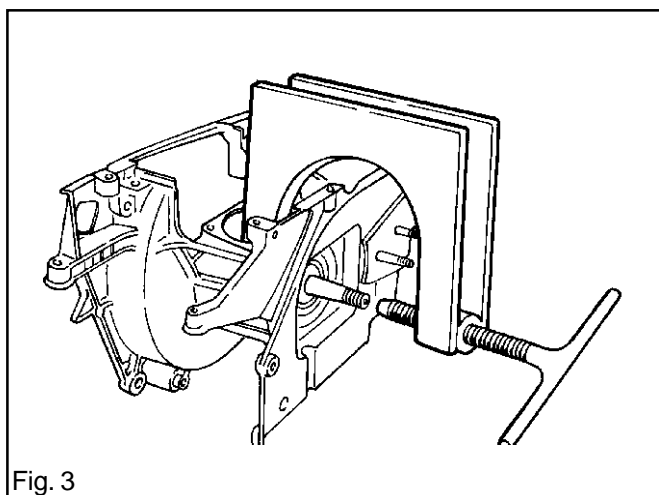

Fig. 3
5. Fit tool 502 51 61-01 as shown in fig. 3 and remove the crankcase half on the clutch side.
6. Remove the crankcase half on the flywheel side in the same way as item 4 above.